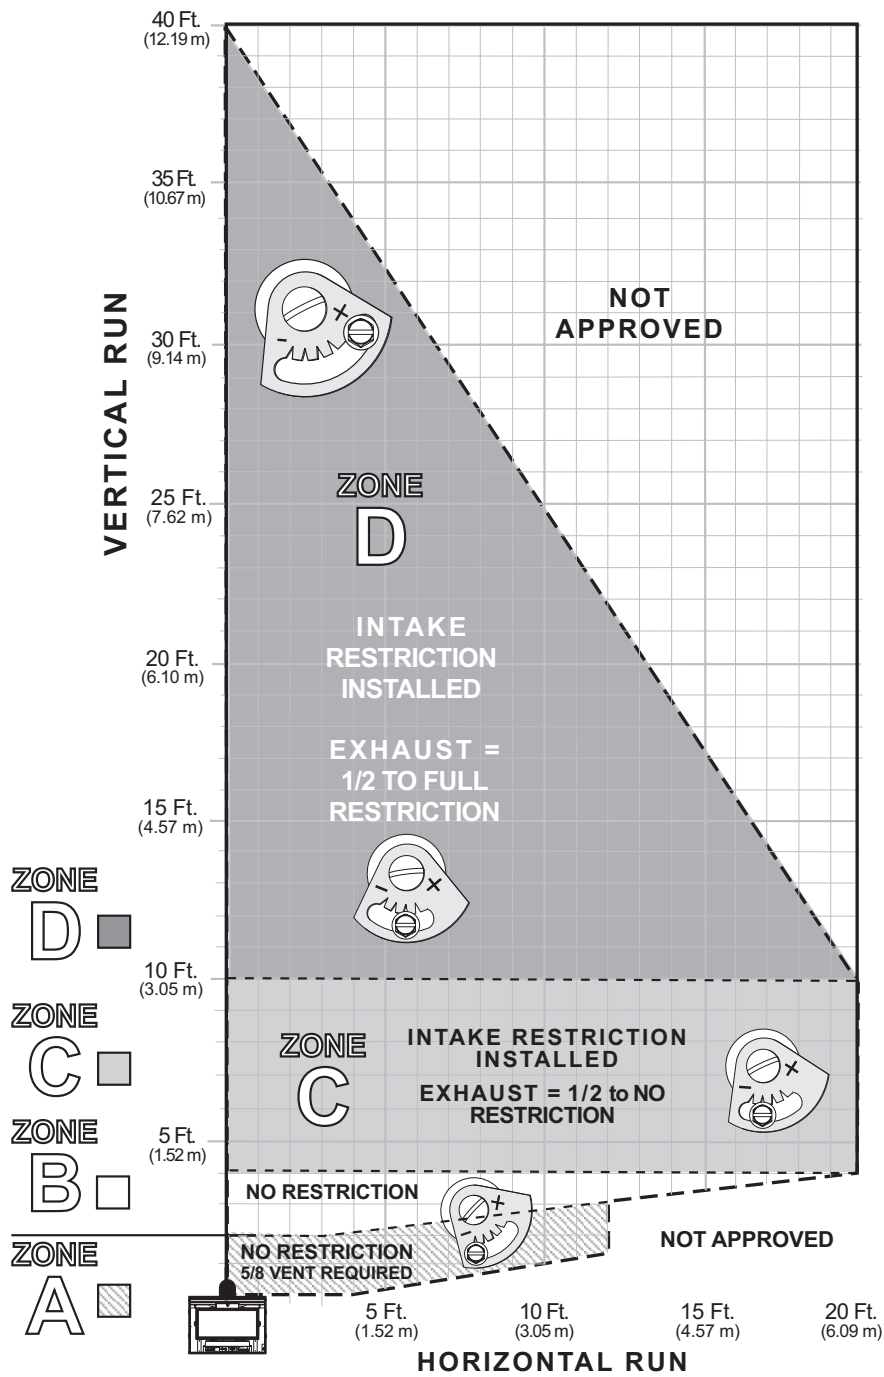

Figure 5.5. Vertical or Horizontal Vent Termination Diagram.
- Any horizontally terminated vent system that includes a vertical run must terminate within one of the Zones defined in the diagram in fig. 5.5. See page 15 for important information regarding exhaust restriction adjustments.
- **The termination must fall within any of the Zones defined in the termination diagram, fig. 5.5 on page 15.**
**NOTE: The restrictor valve is set FULLY OPEN at the factory.** Use the Vent Termination Diagram, fig. 5.5, to determine which zone your vent termination falls within, and make the appropriate exhaust setting adjustment. Consider this setting to be a starting point from which further adjustments may be required depending upon the individual characteristics of your particular installation. There are no hard and fast rules.